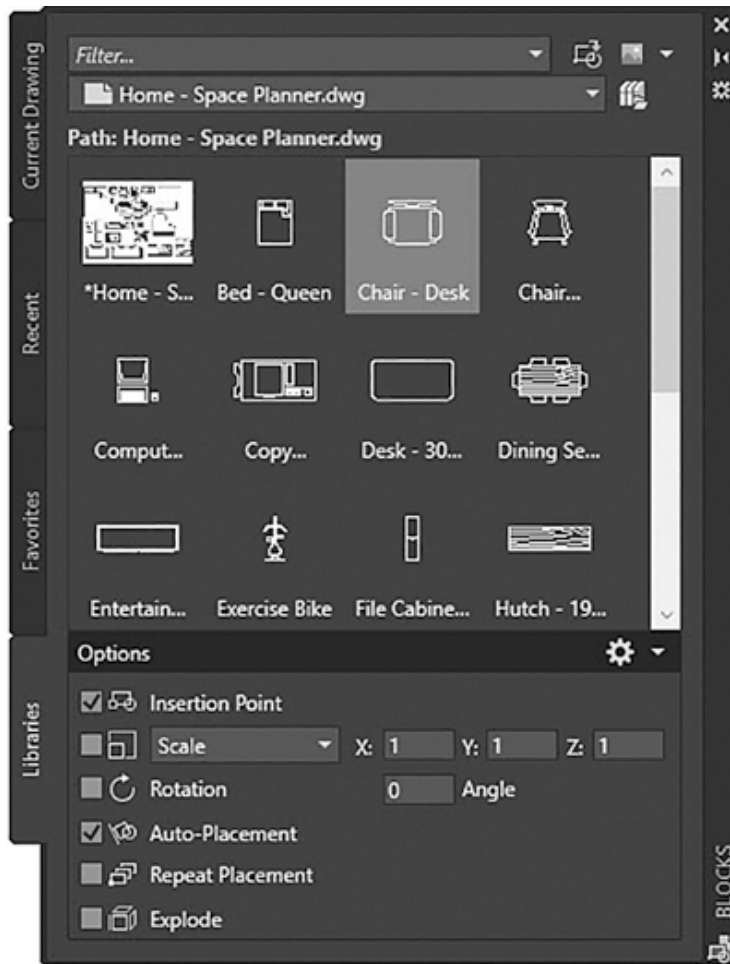

Figure 16-8
- The **Libraries** tab allows you to specify one or more drawings as a block library, so you have access to all block definitions. Adding a drawing to the **Libraries** tab adds all of the blocks in the drawing to the **Blocks** palette, along with a preview, as shown in Figure 16-8.